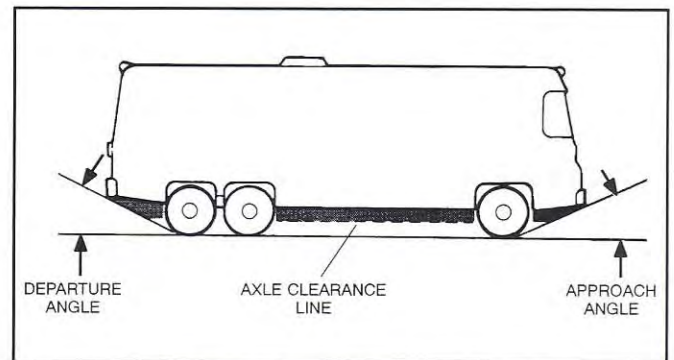

FIGURE 7-8. VEHICLE CLEARANCES
**⚠ WARNING** *EXHAUST GAS IS DEADLY! Keep exhaust gases from entering the vehicle — Do not terminate the exhaust tail pipe underneath the vehicle or closer than 6 inches (153 mm) to openings into the vehicle. Route the exhaust system such that it is protected from damage (Figures 7-8, 7-9 and 7-10). Use approved materials only.*
6. To keep the tail pipe from being damaged, do not route it such that it protrudes into the approach or departure angles of the vehicle or below the axle clearance line (Figure 7-8).